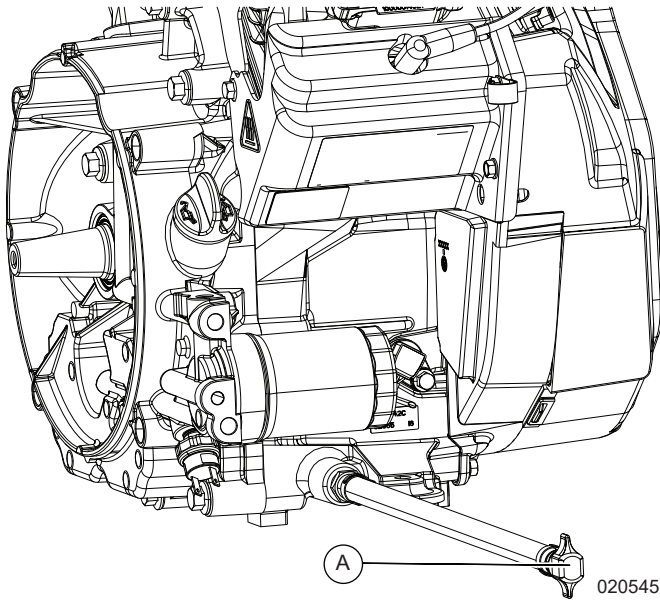

Figure 11-3. Oil Drain Plug
1. See Figure 11-3. Clean area around oil drain plug (A). Remove oil drain plug and drain oil completely into a suitable container.